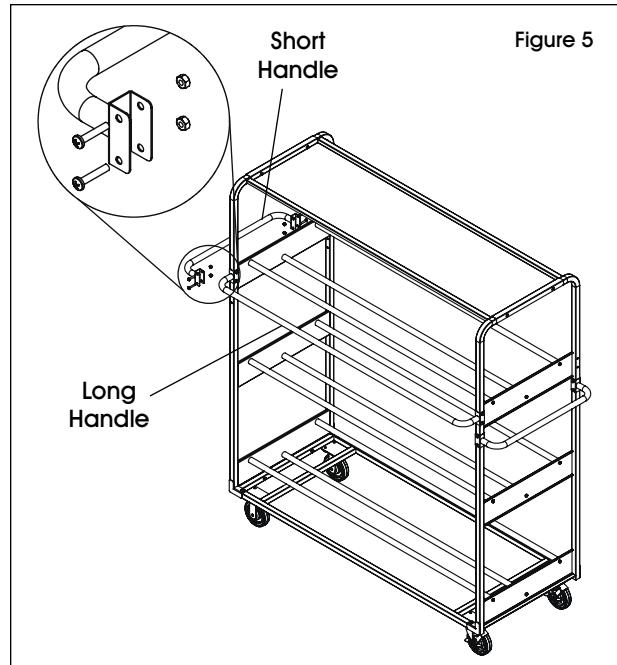

Figure 5
5. Attach short handles to both ends of cart using four Phillips head bolts and locknuts per handle. (See Figure 5)
6. Attach long handle to desired side of cart using four Phillips head bolts and locknuts. (See Figure 5)